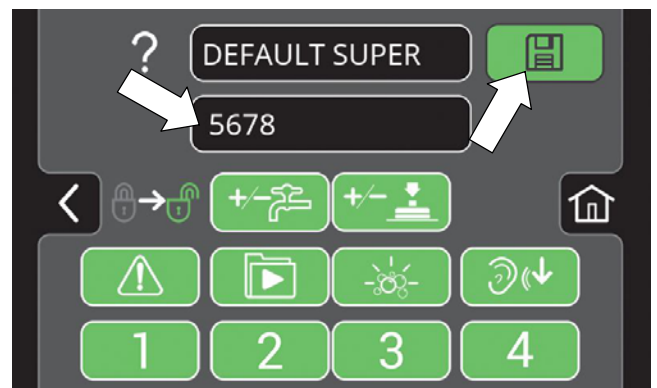

FIG. 185
5. Press the factory-assigned login code and enter a new login code (Figure 185). Press the flashing save button to save the new login code.